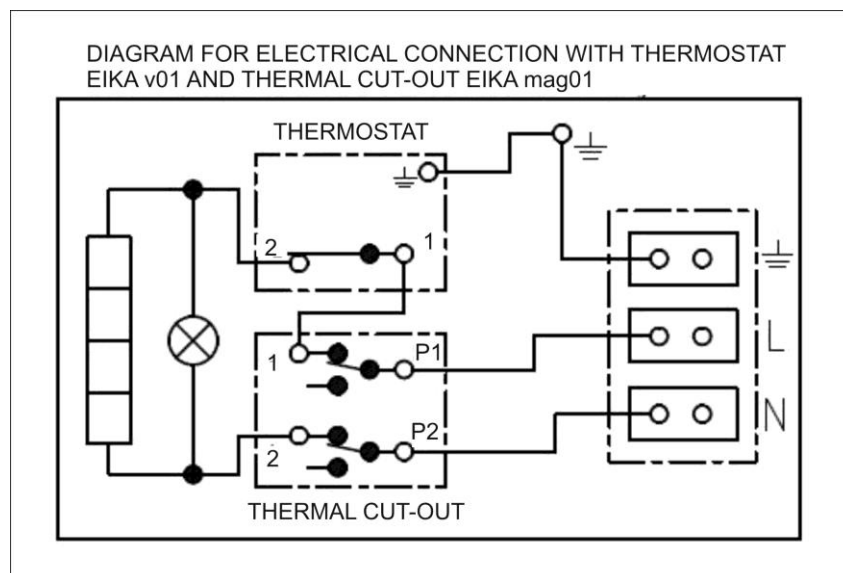
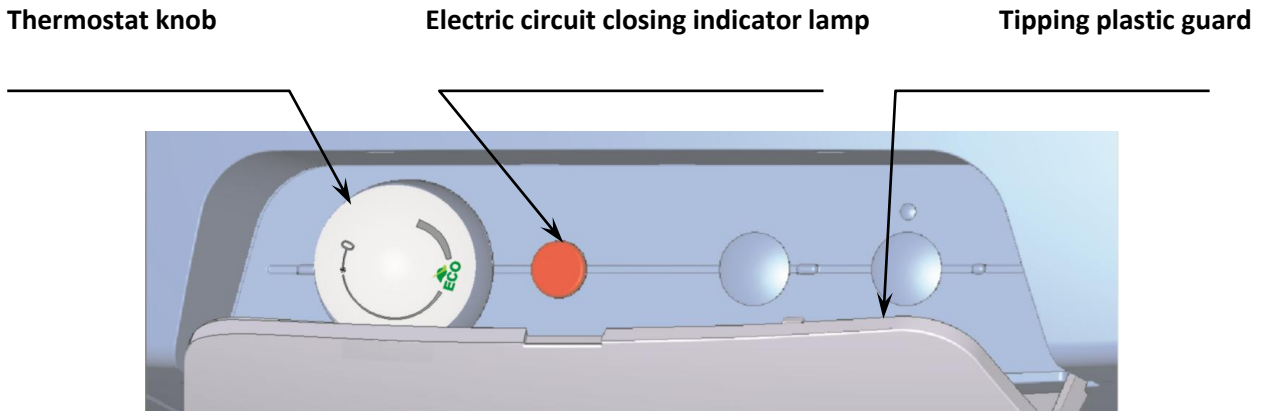

Figure 4
Figure 6
Connection of appliances to plumbing fixtures is illustrated on (figure 4, figure 6). For potential disconnection of the appliance, the service water inlets and outlets must be provided with screw coupling Js 3/4". The safety valve is mounted on the cold water inlet identified with a blue ring.
- The electric wiring scheme is attached to the water heater on the side of the electric installation guard (figure 4).